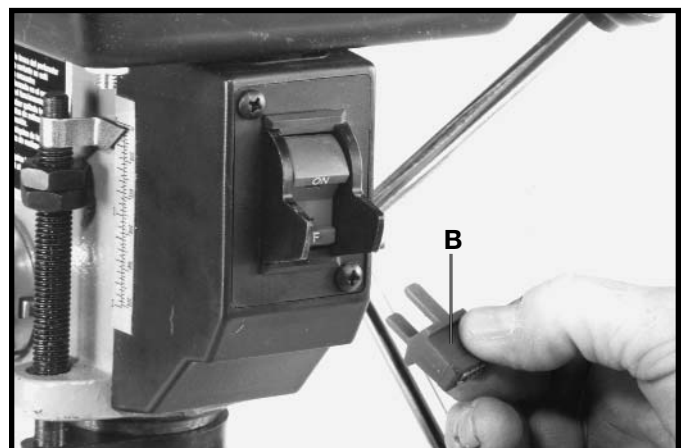

Fig. 16
IMPORTANT: When the machine is not in use, the switch should be locked in the **“OFF”** position to prevent unauthorized use. This can be done by grasping the switch toggle (B) and pulling it out of the switch, as shown in Fig. 16. With the switch toggle (B) removed, the switch will not operate. However, should the switch toggle be removed while the drill press is operating, the switch can be turned **“OFF”** once, but cannot be restarted without inserting the switch toggle (B).